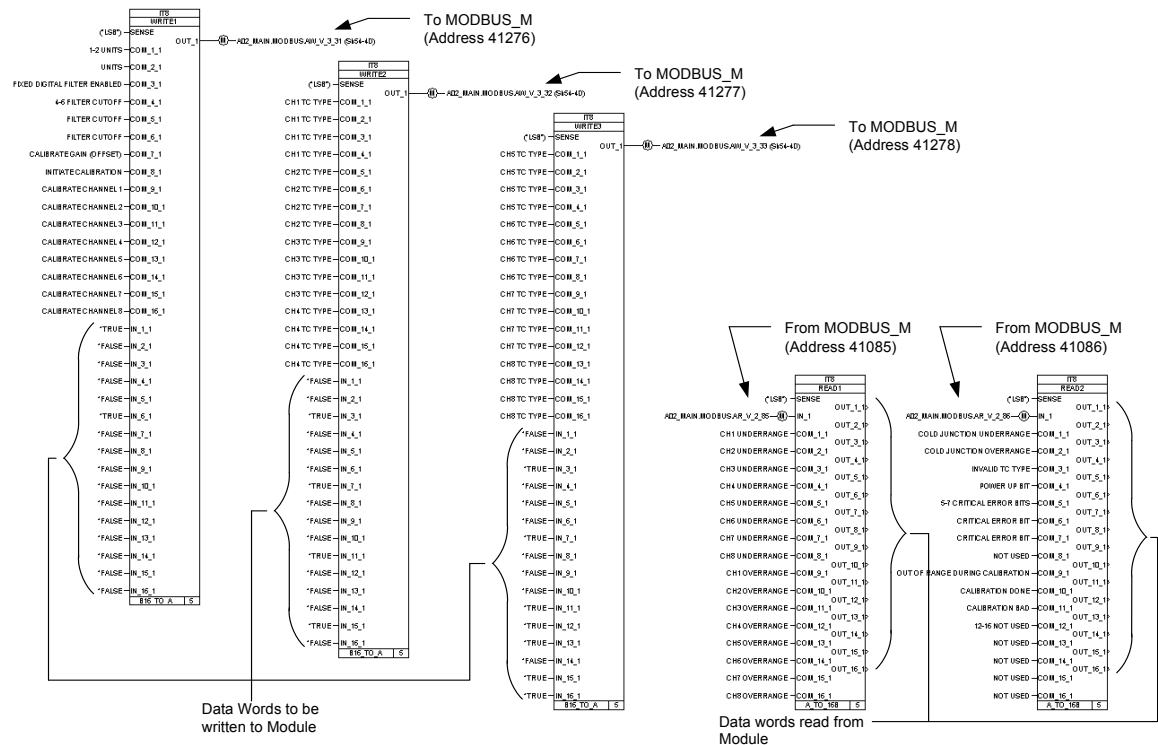

Figure 6-87. Example of 1794-IT8 Read and Write GAP Blocks
In this example, the first read block is set up to monitor the underrange and overrange bits on the module. The second read block monitors the Cold Junction sensor underrange bit, Cold Junction sensor overrange bit, Bad Structure, Powerup bit, Critical Error bits, Calibration Range bit, Calibration Done bit, and Calibration Bad bit. The first write word (0) sets the module for °F units, 100 Hz filtering, and no calibration. The second write word (1) sets the module for type K thermocouples on channels 0, 1, 2, and 3. The third write word (2) sets the module for type K thermocouples for channels 4 and 5, cold junction (channels 0-3) temperature on channel 6, and cold junction (channels 4-7) on channel 7. See Figure 6-87 for GAP read and write block example.